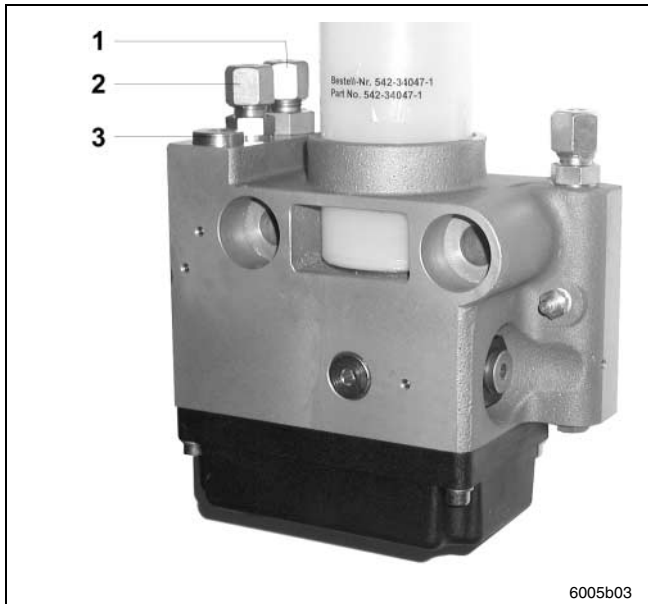

Fig. 2 Hydraulic oil connection of the pump HTL 101
- via the pressure connection P (Fig. 2, item 1)
- and back to the hydraulic system of the carrier via the return line connection R (Fig. 2, item 2)
The flow quantity of the hydraulic oil can be adjusted via the regulating throttle valve (Fig. 2, item 3), thereby, adjusting the output quantity of the pump accordingly. The throttle valve is notched, whereby eight notches correspond to one complete rotation.
- 1 - Pressure connection (P), M 16 x 1.5 with integrated oil strainer
- 2 - Return connection (R), M 16 x 1.5
- ➔ Open the cover cap of the throttle valve (Fig. 2, item 3)
To adjust the throttle valve, stop the hydraulic system operation. The throttle valve may still be pressurized for a long time after switching off the hydraulic unit. Always check first whether the pressure connection P (Fig. 2, item 1) is depressurized (the eccentric shaft no longer rotates).